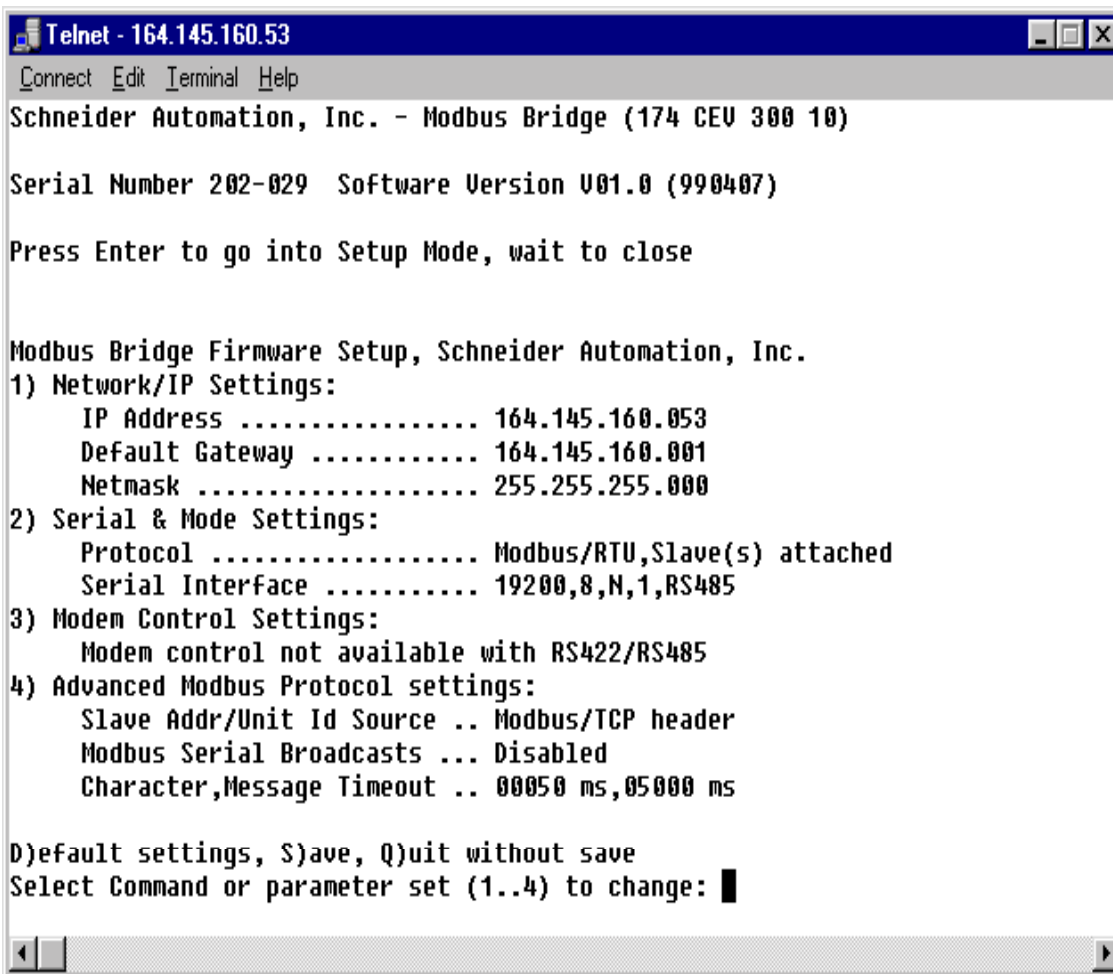

Figure 5 – Telnet Window for Configuring Both Sides of the CoBox Ethernet-to-Modbus Bridge
Select item 2 (see Figure 5) to configure the Modbus side to the CoBox Bridge. Follow the on screen prompts and set the following: